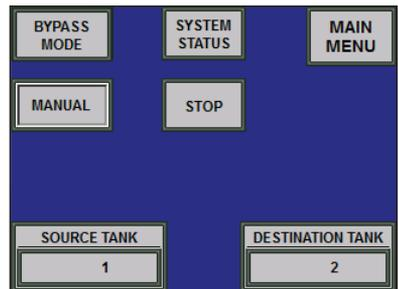

Figure 10 Manual Mode Screen
1. Put the Hand-Off-Auto switch in Hand mode (Figure 10).